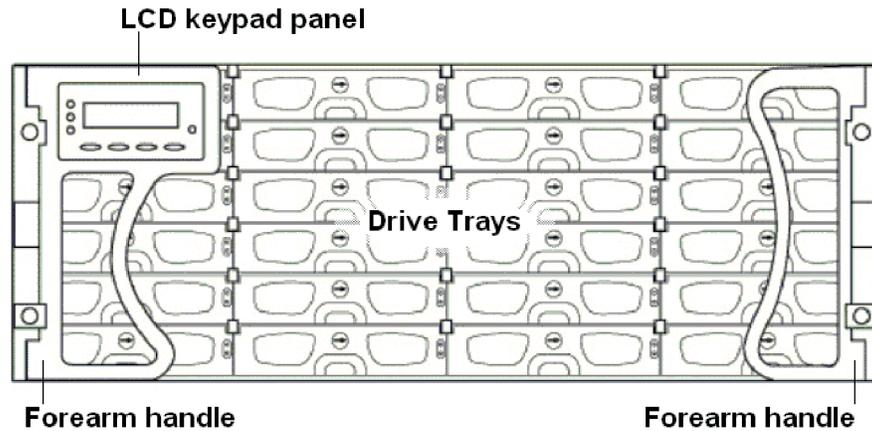

Figure 1-3: Falcon 24 BAY RAID Subsystem Front View
As shown in *Figure 1-3*, the front of the subsystems features a 4-column by 6-row layout to accommodate twenty-four (24) drive trays that are designed to house standard 3.5 inch SATA drives. The front side of the subsystem also has two (2) foldable forearm handles (see *Figure 1-3*) on the sides. These front handles are conveniently placed and facilitate installation and removal of the enclosure within a rack. The left-side front-handle comes with a 16-character by 2-row LCD keypad panel with four (4) function buttons that can be used to configure, troubleshoot, and check the status of the subsystem.